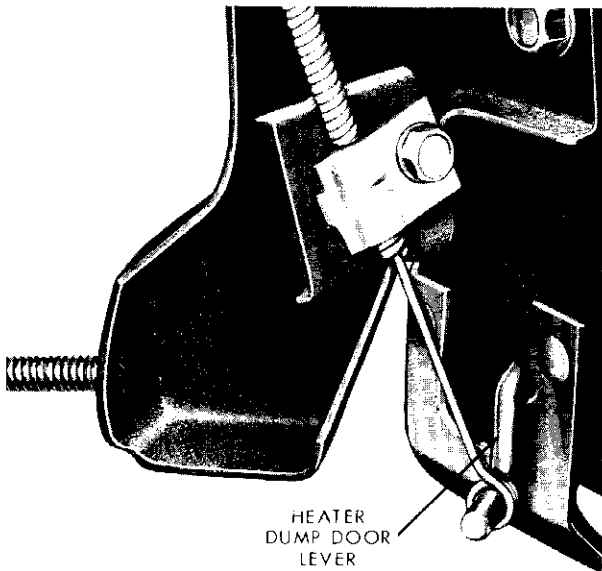

Fig. 5-15—Heater Dump Door Adjustment—
1. Loosen but do not remove the control cable housing retainer screw at the heater dump door lever. (See figure 5-15.)
2. With the lower control lever in the off detent position, move the heater dump door lever to the full counterclockwise position. (See figure 5-15.)